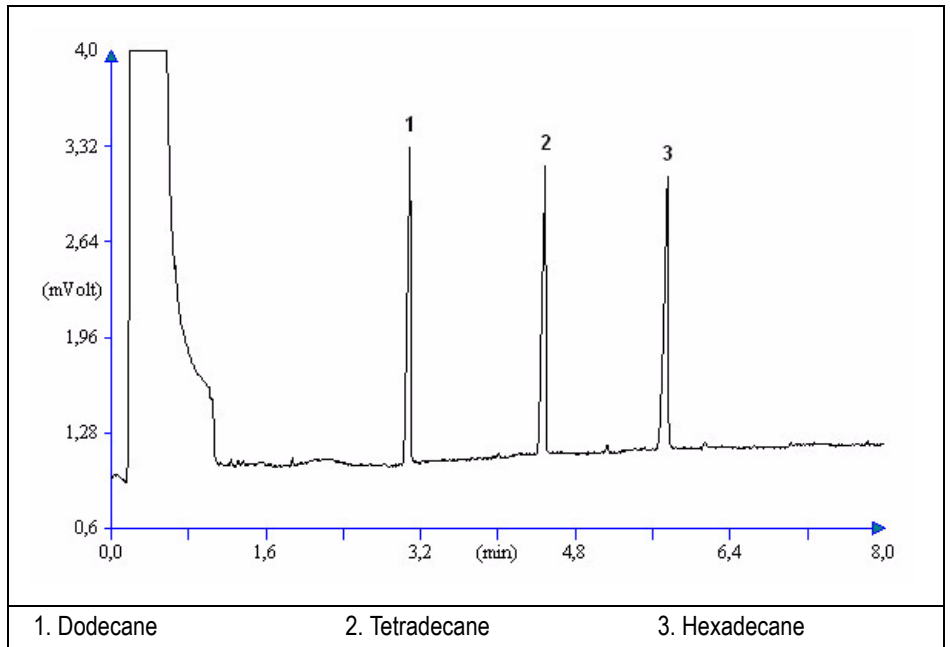

Figure 14-1. TCD-PPKD Injection
23. Inject the test mixture and press **START** on the GC to begin the checkout run. The resulting chromatogram should look like the one shown in Figure 14-1.